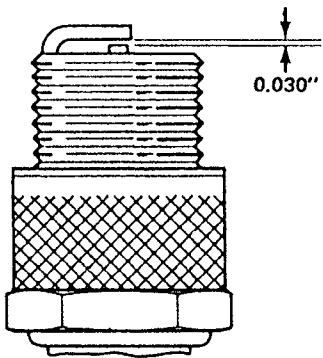

Figure 40
3. Set air gap between electrodes of new spark plug at 0.030 of an inch (Fig. 40). Next, install spark plug in cylinder head. Tighten plug to 15 ft-lb. If torque wrench is not used, tighten plug firmly.